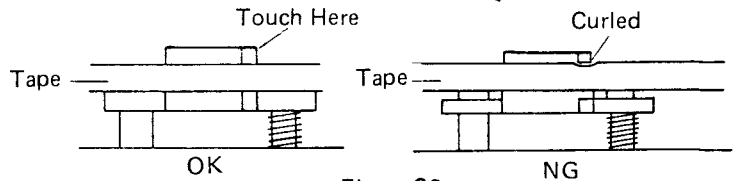

Figure 28
3. Adjust the height adjusting screw so that the upper edge of the tape will touch at the upper tape guide of the erase head. See figure 28.